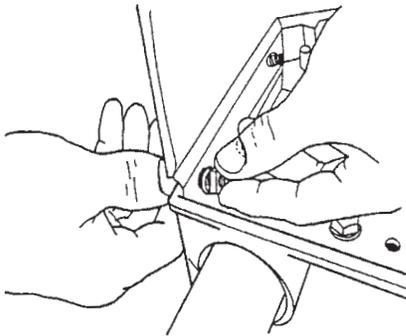

Figure C-3
9. Insert a screw (31) through a hole in the base and leg. Use a star washer (32) and nut (33) to attach the screw, as seen in Figure C-3. Finger tighten.